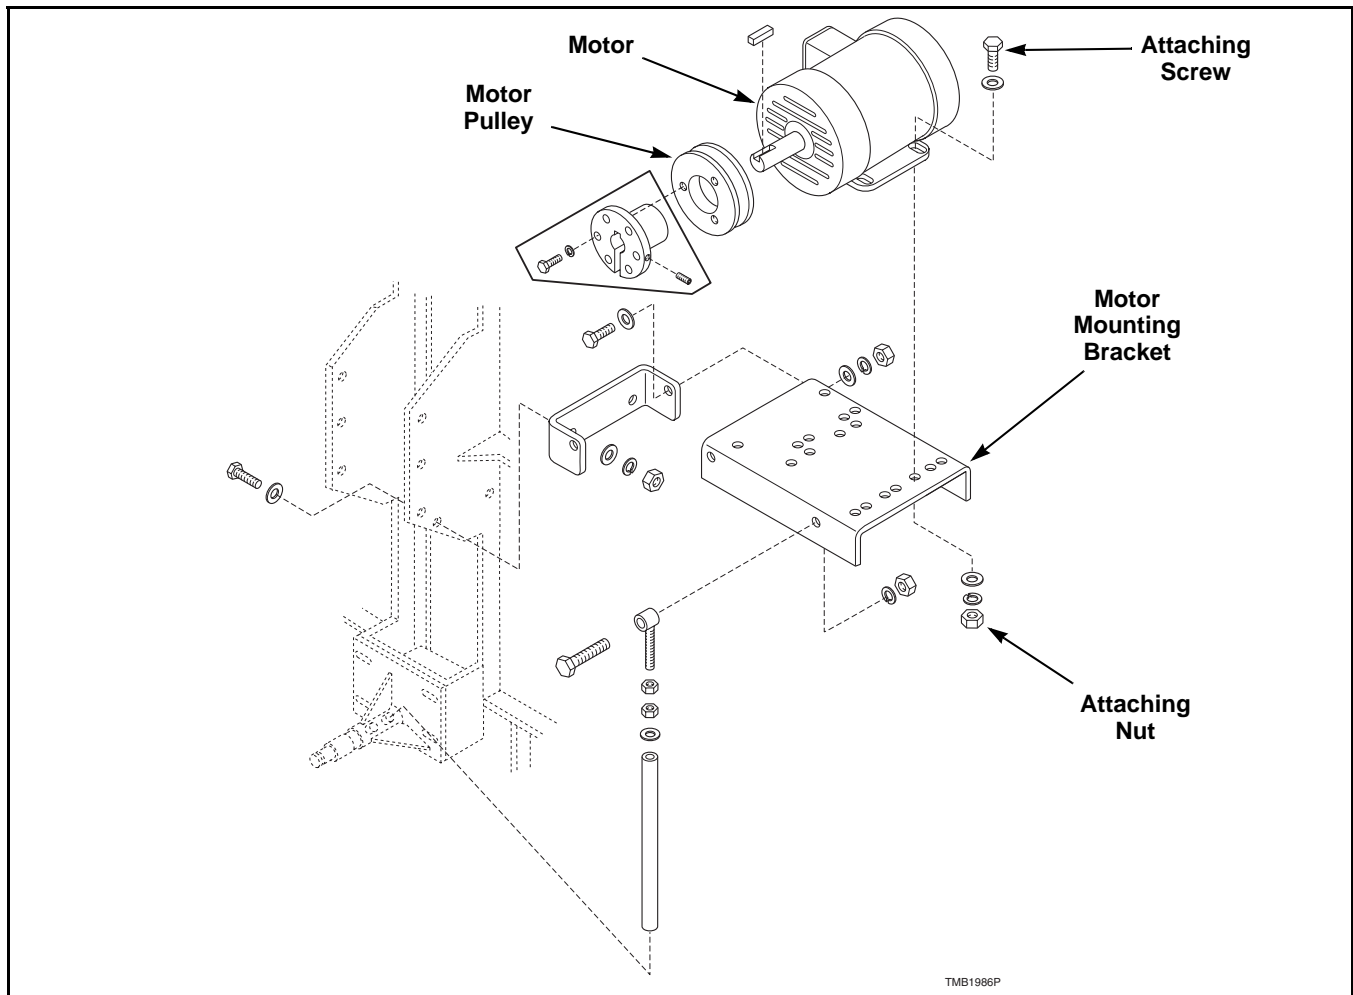

Figure 20
- d. Mark location of motor on the motor mounting bracket and remove screws and nuts holding motor to mounting bracket. Refer to *Figure 20*.